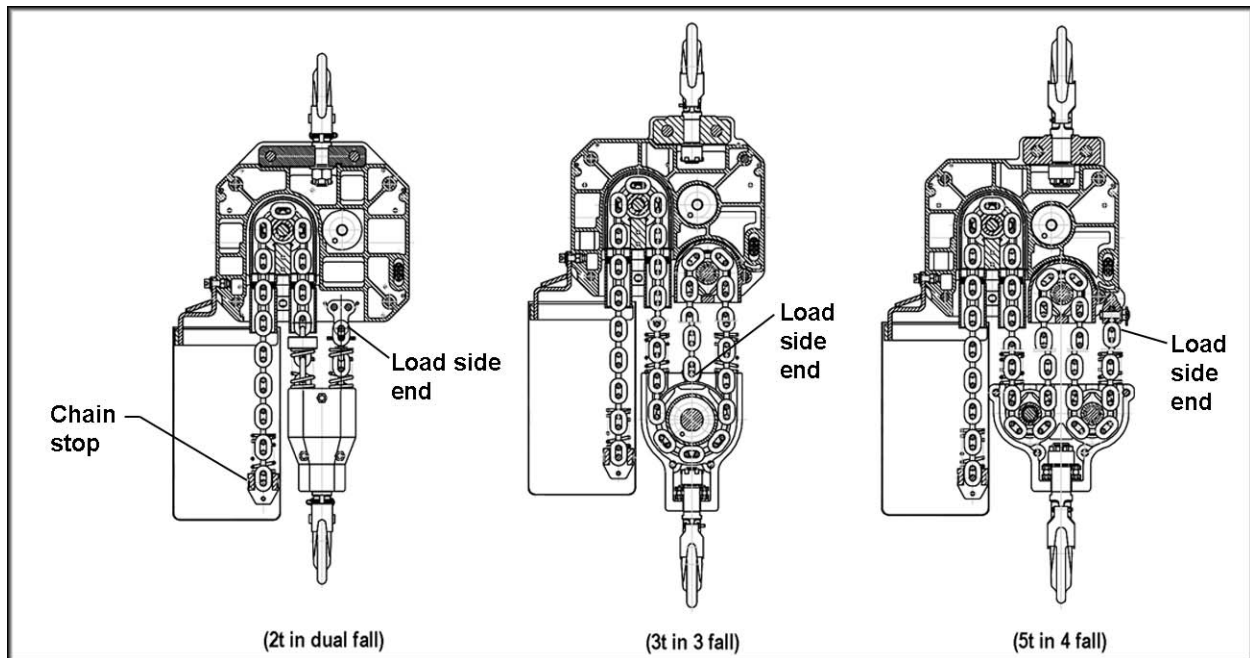

Figure 16
6. Support the load hook so that the load chain can pass through the chain sheaves smoothly. Figure 16 shows the load chain path for the various sizes of hoist.